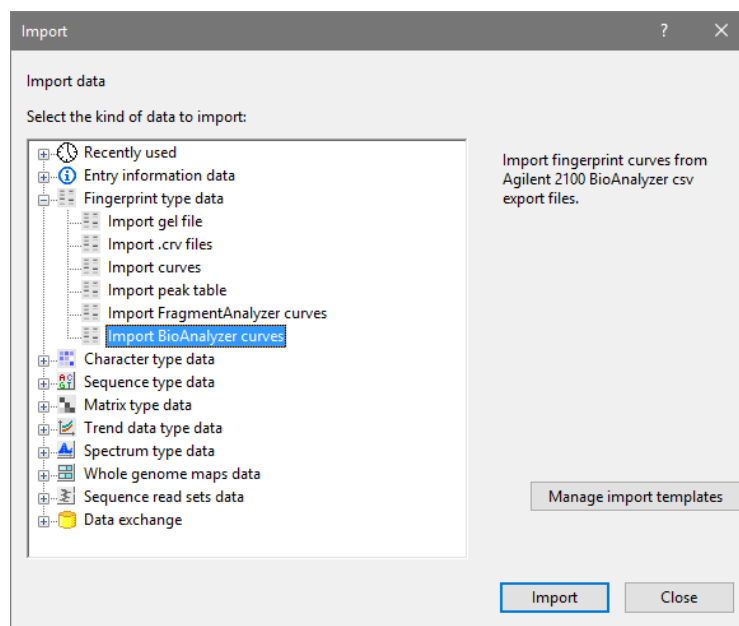

Figure 3.4: The *Import* dialog box.
3.2 Select **Import Bioanalyzer curves** under **Fingerprint type data** (see Figure 3.4) and press **<Import>** to start with the import of the data.